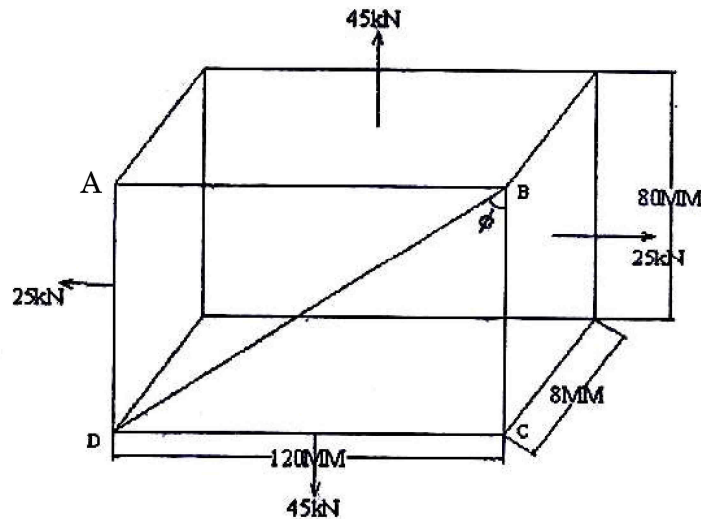

Fig. 3
- (b) A block  $120 \text{ mm} \times 80 \text{ mm}$  thick is subjected to uniformly distributed stress fields as shown in Fig. 3. Compute the normal stress and shear stress development along the plane BD. Also finding out the maximum shear stress and corresponding plane. [6]